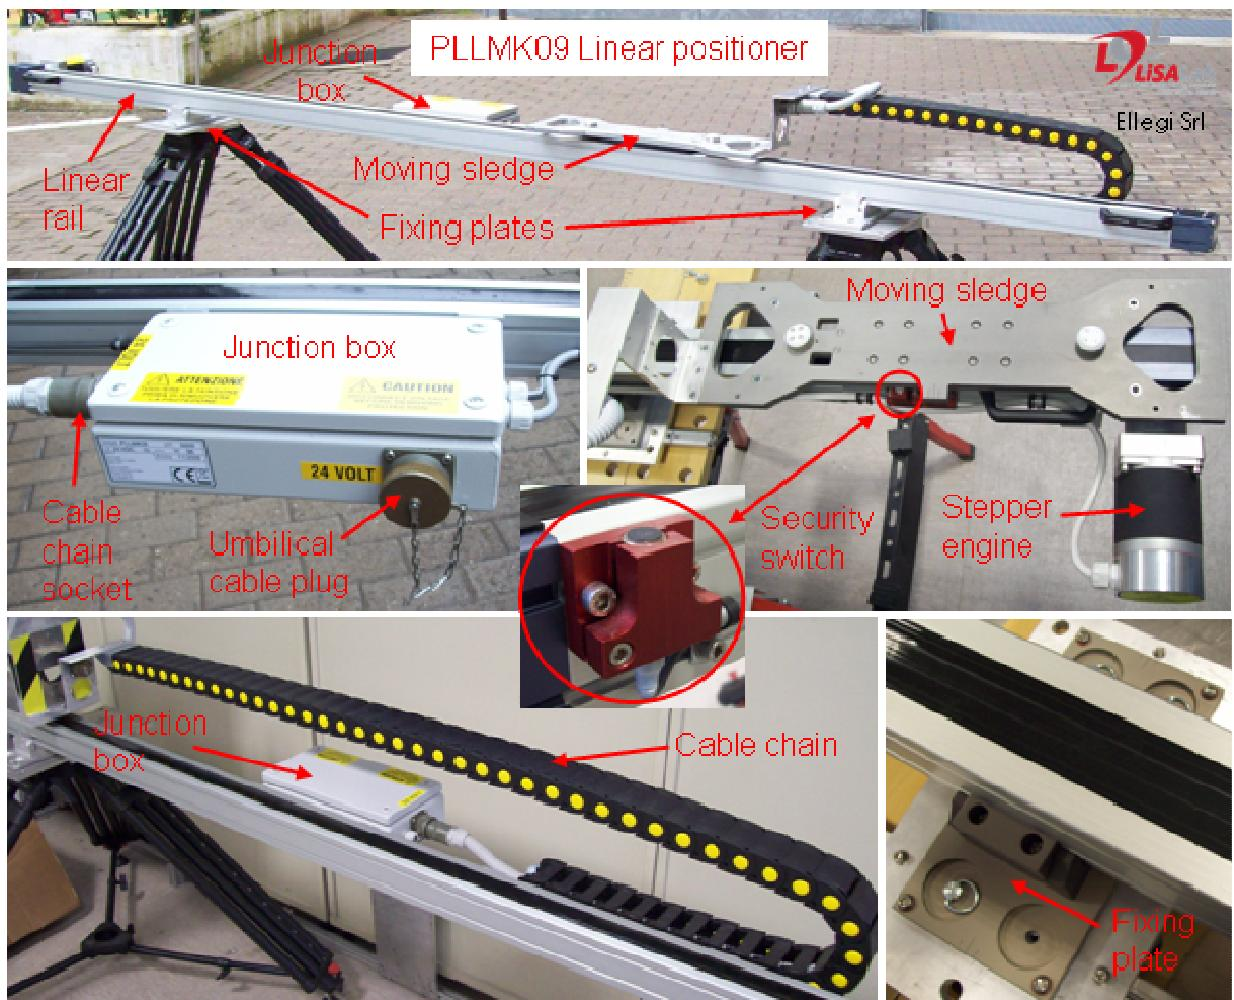

Figure 6: LISAMOBILE PLLM linear positioner main features.
**5. Linear positioner PLLM:** it is the component of the LISAMOBILE system that ensures the measuring head displacement. It is composed of an aluminium linear rail with a moving sledge that can be moved forwards and back along the rail, a high performance stepper motor, three security switches, a junction box, a cable chain and two fixing plates (Figure 6).